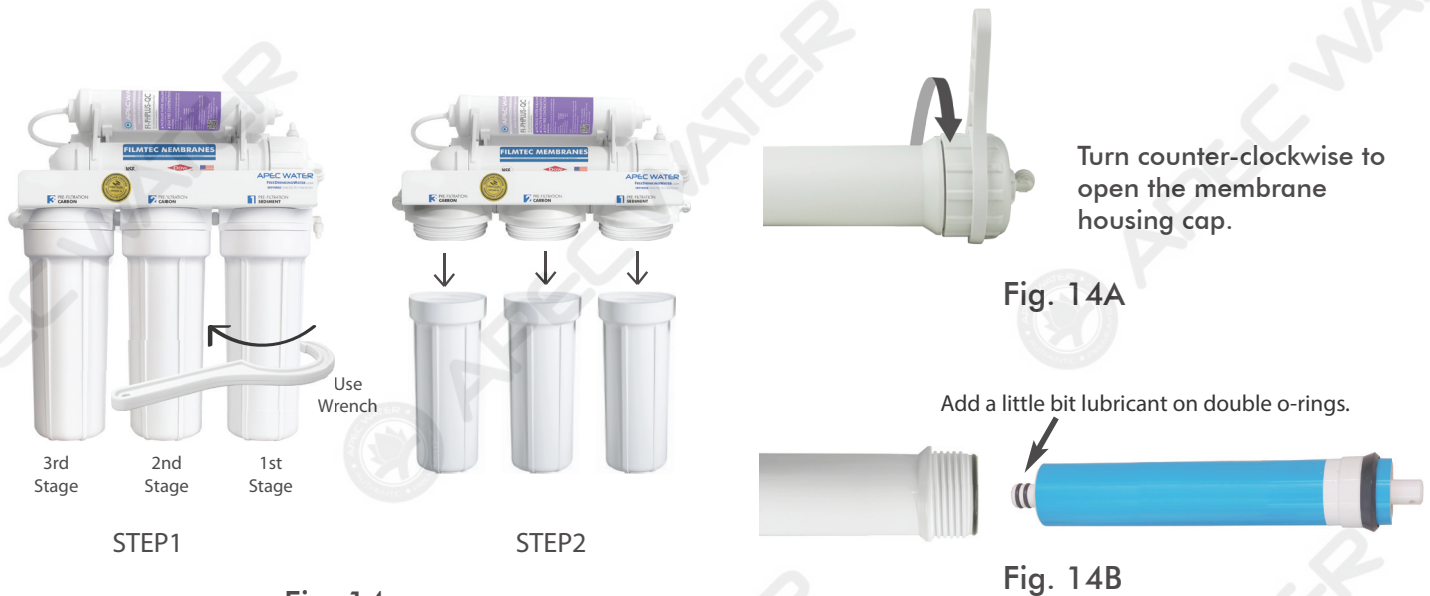

Fig. 14
- 2) **Open housing:** Have the RO standing upright. Slip the plastic wrench onto the 1st housing. Looking down from a top view, you should open the housing turning **clockwise**. If necessary, lay RO down on the floor to get a better leverage. If the housing is too tight, use a hammer and gently tap on the wrench handle to help turn the wrench. See **Fig.14 (Page 20)**. Please put a towel under the RO unit to help collect residual water during filter change.